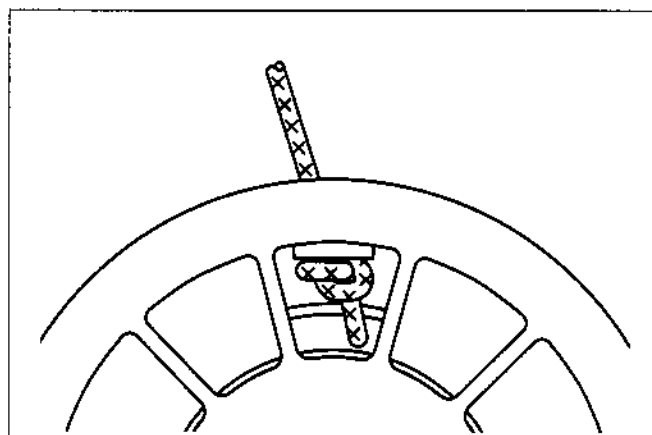

Fig. 9-9
- 3: Put the rope into the reel, whereby make sure that the rope will not float up. (Fig. 9-9)